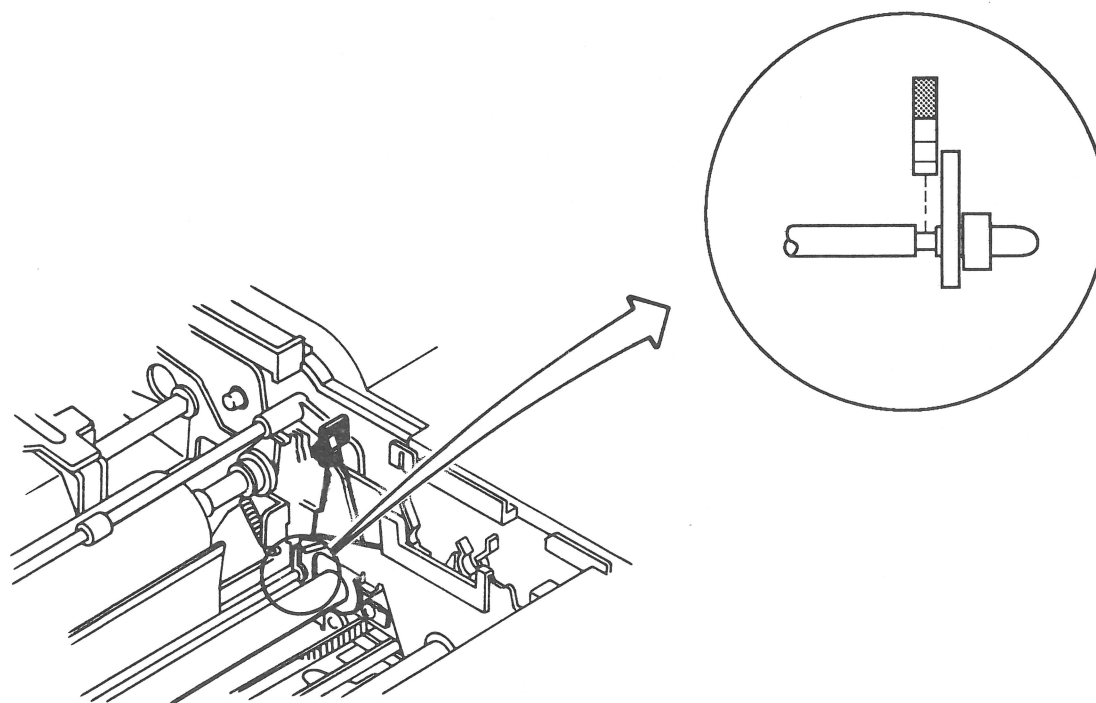

FIGURE 10
2. Install the new clip by holding the top part of the clip with the needlenose pliers and inserting the clip on the bail shaft. Make sure the clip goes around the cutout ring on the shaft, and the long upper arm is positioned toward the rear of the printer (see Figure 10).